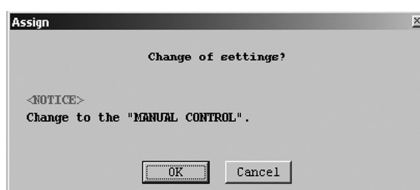

Fig.22
- ④ After filling in all the fields required, click on "OK" button. A message box as shown in Fig. 22 then appears.